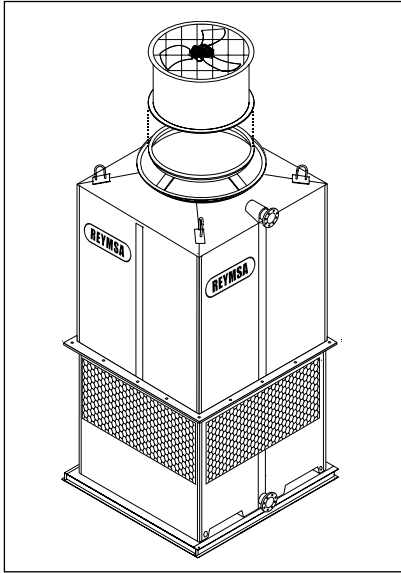

Figure A-128: Fan Duct installation on a fan adaptor
- C. Then place the fan duct on top of the fan adaptor; make sure the bolt holes and the marks inside the fan duct are aligned (see Figure A-128 and A-129). Then secure it using the stainless steel nut and bolt sets supplied by REYMSA.